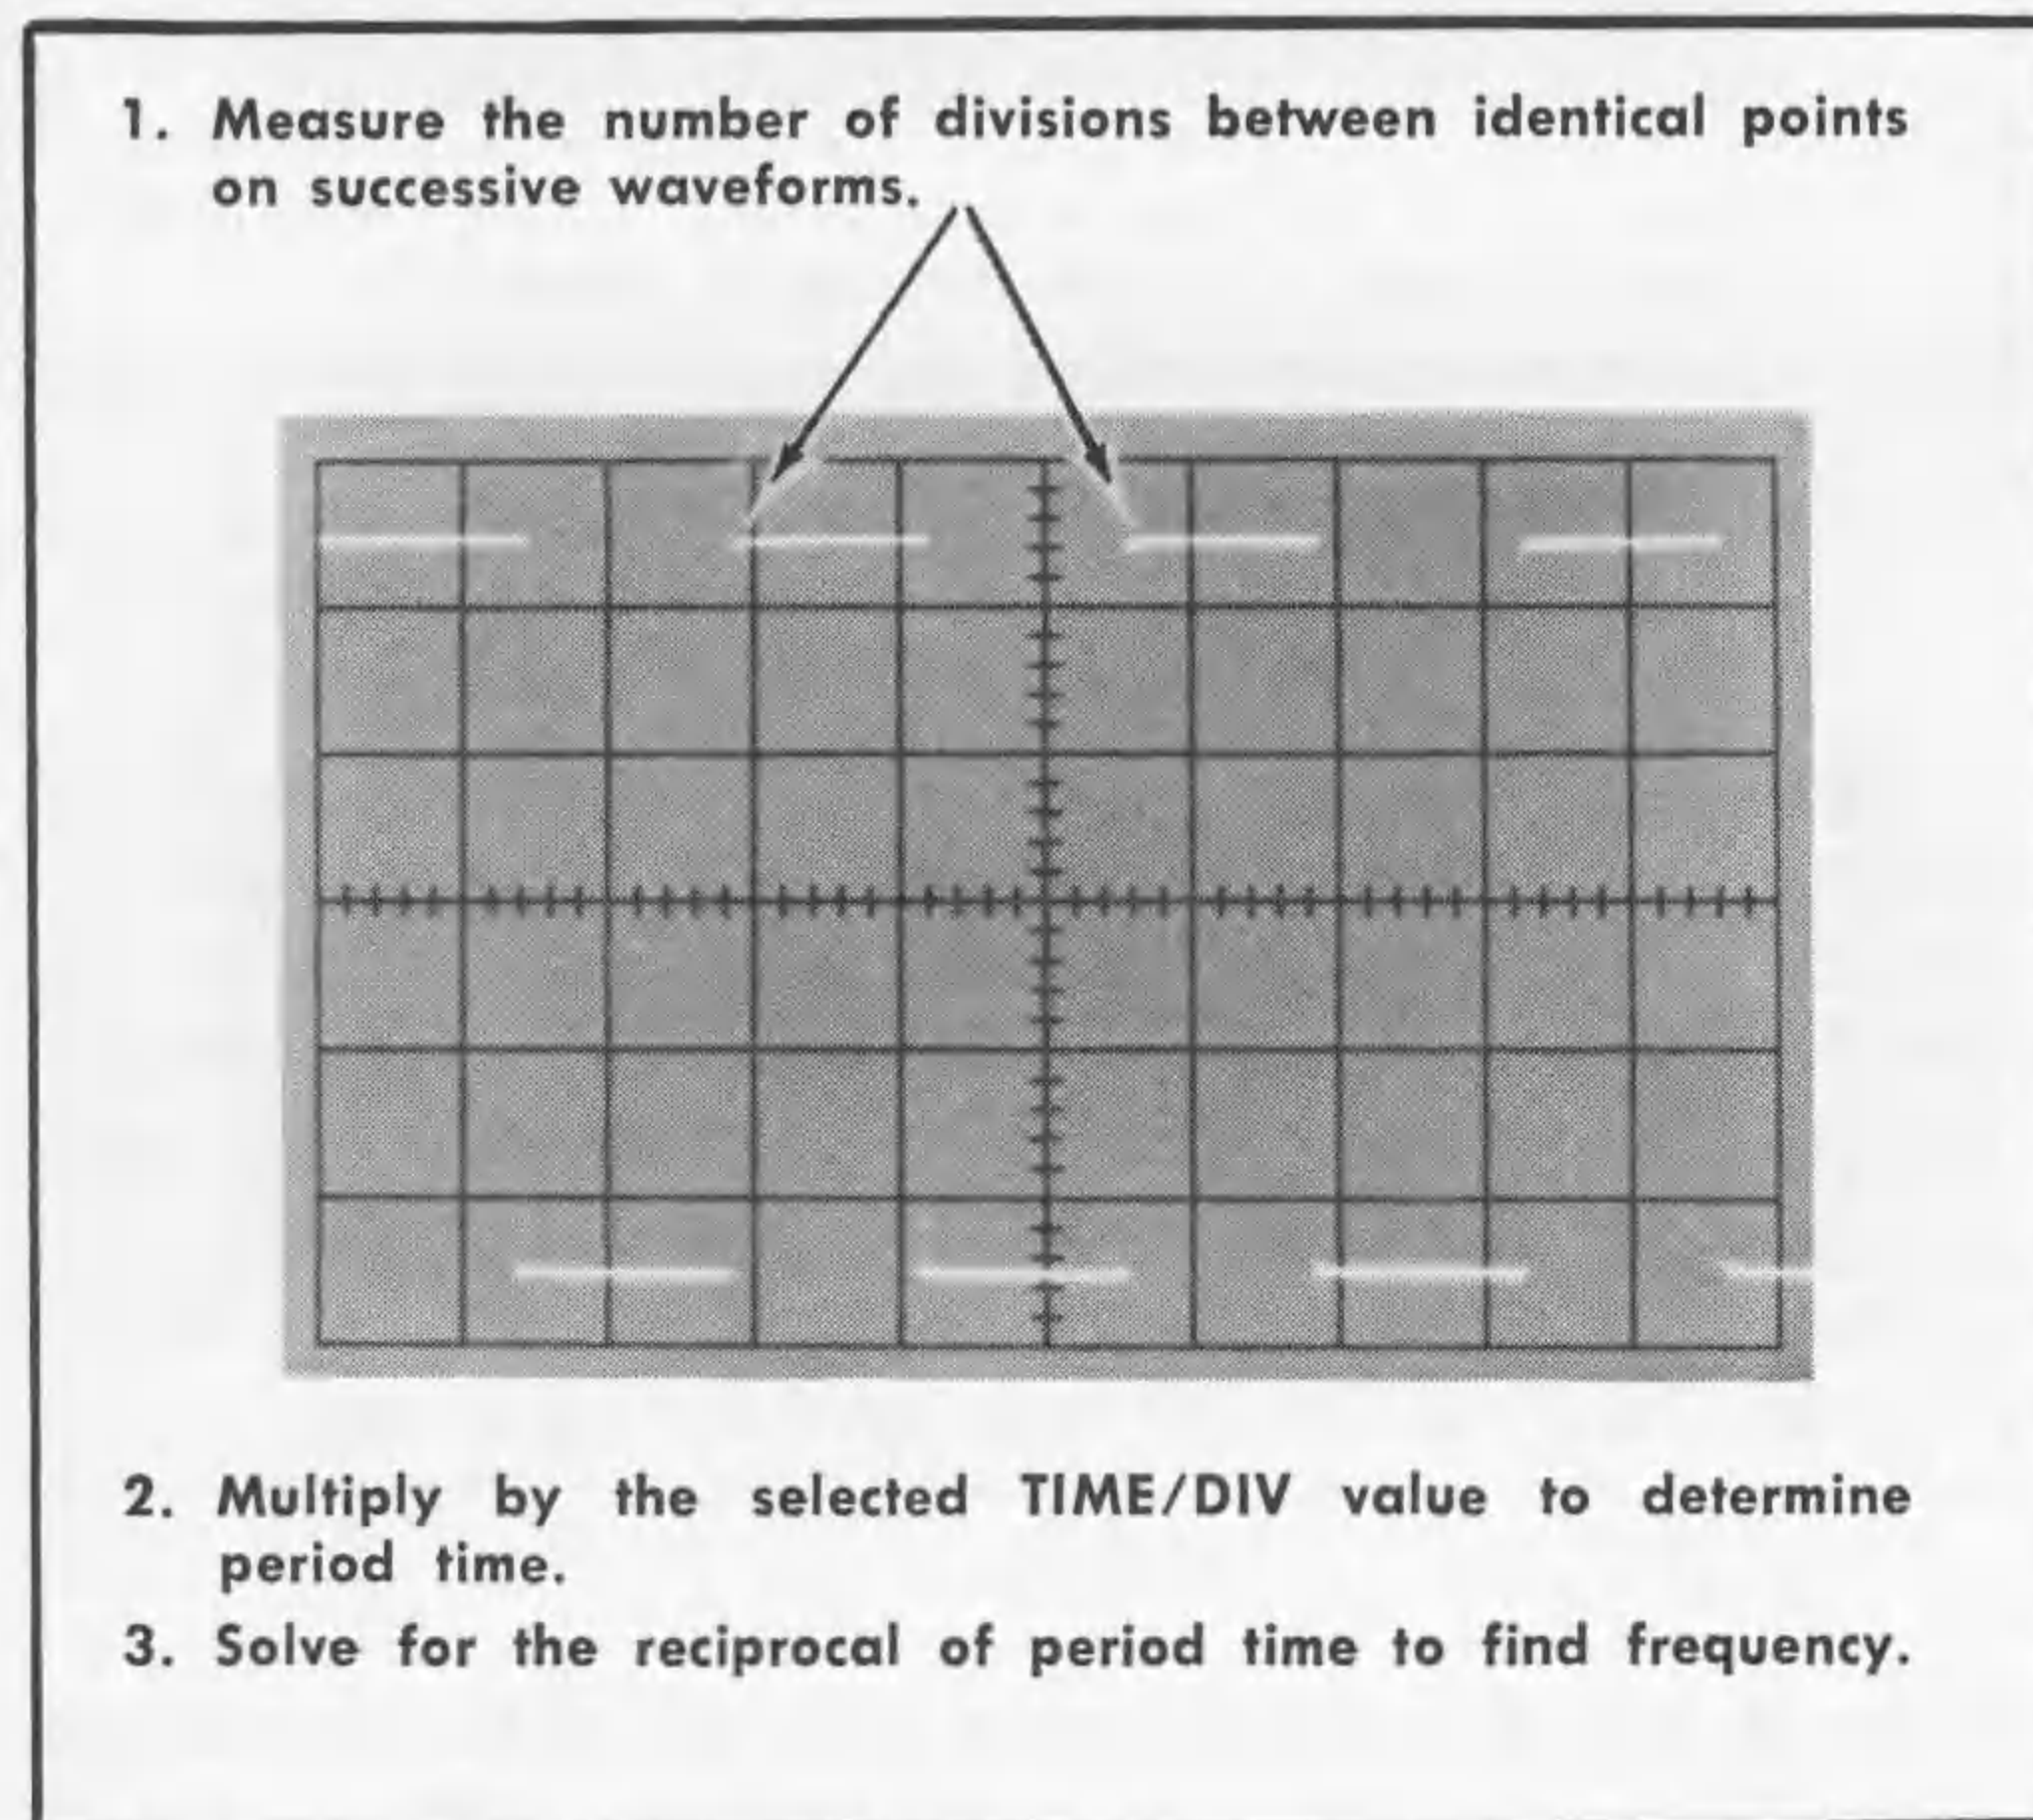

Fig. 2-6. Determining frequency.
15. Calculate the square wave period. Multiply the number of divisions per one cycle of square wave by the TIME/DIV setting. Reset the horizontal POSITION knob as necessary for convenient measurement. (Approximately 1.25 ms per cycle.) See Fig. 2-6.